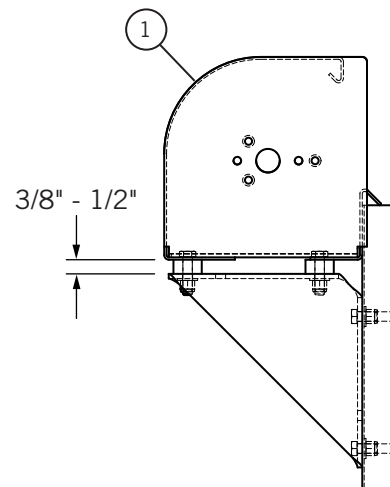

Figure 8-2
- 1) Figure 8-2.** Turn tarp housing (1) upside down and position mounting bracket trailer (2) 12" in from each end and flush with the back of the tarp housing (1) (not the end plates). Keeping brackets straight and parallel with end plates, mark holes through brackets
- 4) Figure 8-2.** Hold housing up to trailer firmly, center on trailer and trace holes in mounting brackets. Drill marked holes using 17/32" drill bit.
- 5) Attach with 1/2-13 x 2 hex bolt (4), 1/2 flat washer (5), and 1/2-13 nylon hex nut (6).